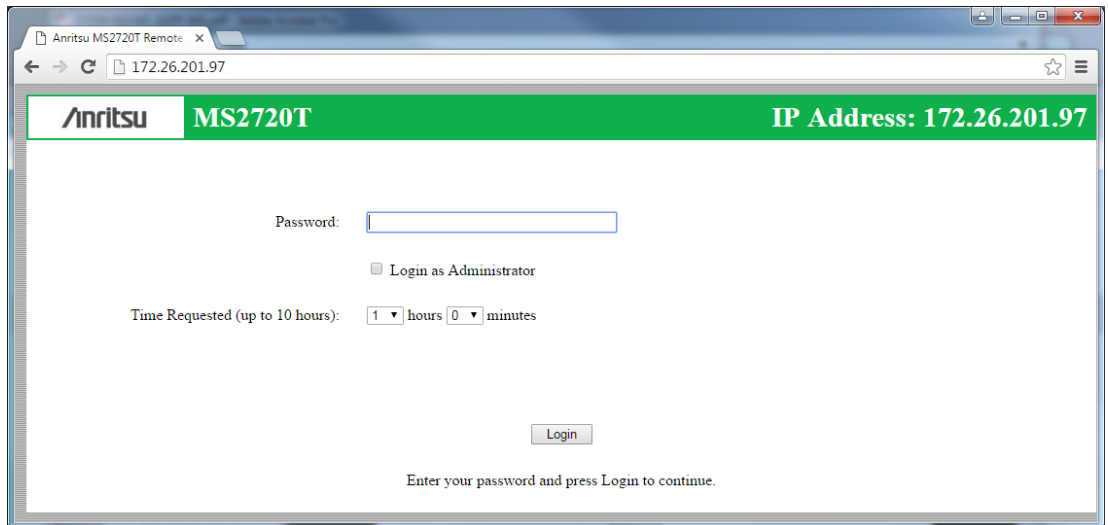

Figure 9-1. Login Page
Enter the instrument IP address in the browser address bar to open the Web Remote Control Login page illustrated in Figure 9-1 on page 9-3.
9. Enter the instrument IP address in the browser address bar to open the Web Remote Control Login page illustrated in Figure 9-1 on page 9-3.
The Web Remote Control Login page opens following browser connection to the instrument. See Figure 9-1. The page may show or hide certain elements depending on device management options set by the Administrator, as described in “Device Options” on page 9-11.